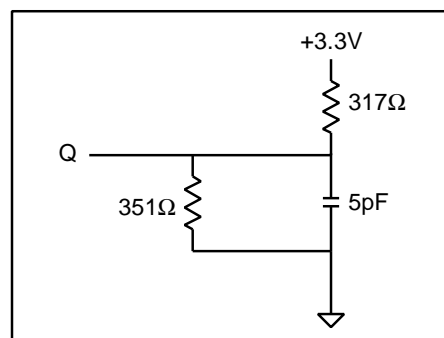

Figure 2
4. The load used for V_{OH}, V_{OL} testing is shown in Figure 2. AC load current is higher than the shown DC values.
2. Output loading is specified with C1=5pF as in Figure 2.